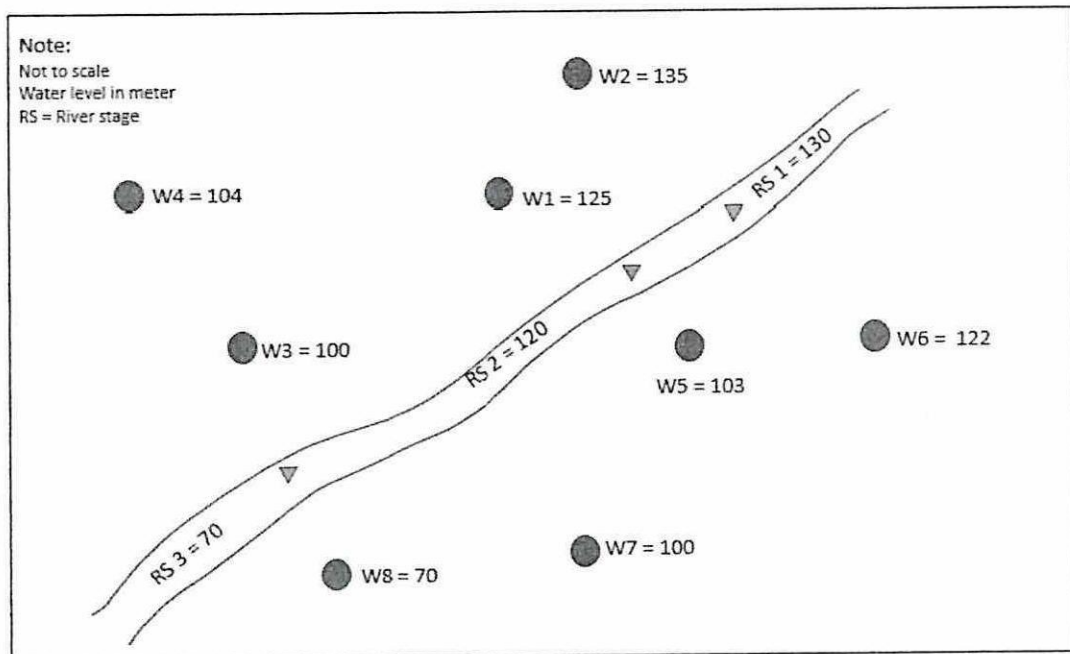

Figure Q4.2: Map view for the study area
- (d) Eight wells are tabulated near the Gombak River in Malaysia. The region is characterized by a tropical rainforest climate with high annual rainfall. Laterite soil underlies the land surface and a confined sandstone aquifer exists beneath the region. All wells are shown in **Figure Q4.2**.
- (ii) Based on the plotting result from **Figure Q4.2**, sketch the direction of groundwater flow on the map. (4 marks)